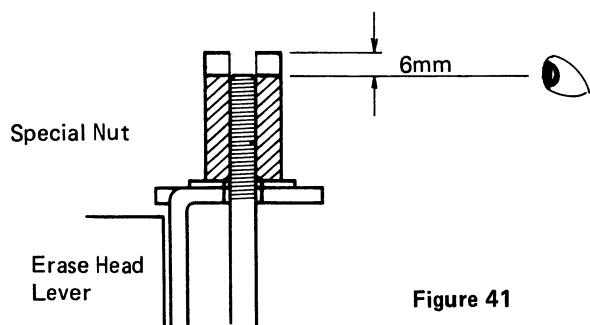

Figure 41
- (l) Fix the special nut (1), Tighten and adjust roughly until the top of the shaft becomes same level with the groove of the nut as shown in figure 41.